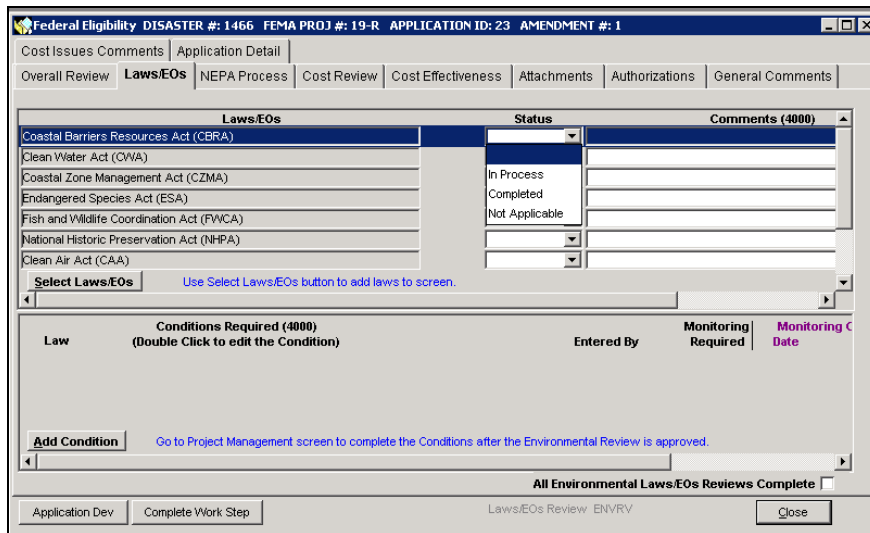

Figure 7-27: Mitigation > Projects > Eligibility Determination > Laws/EOs Tab
4. Click the OK button. The **Laws/EOs** tab is displayed by default (Figure 7-27).